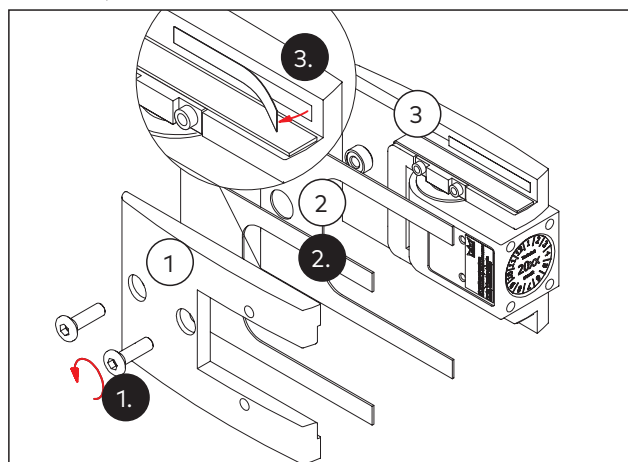

Fig. 22 Preparing the double-action hinge
1. Unscrew the counter-plate (Fig. 22/1).
2. Select the appropriate gaskets (Fig. 22/2) according to the glass thickness (see Chapter 4.1).
3. Peel off the protective film of the adhesive tape on the base- and counter-plate (Fig. 22/1 and Fig. 22/3).